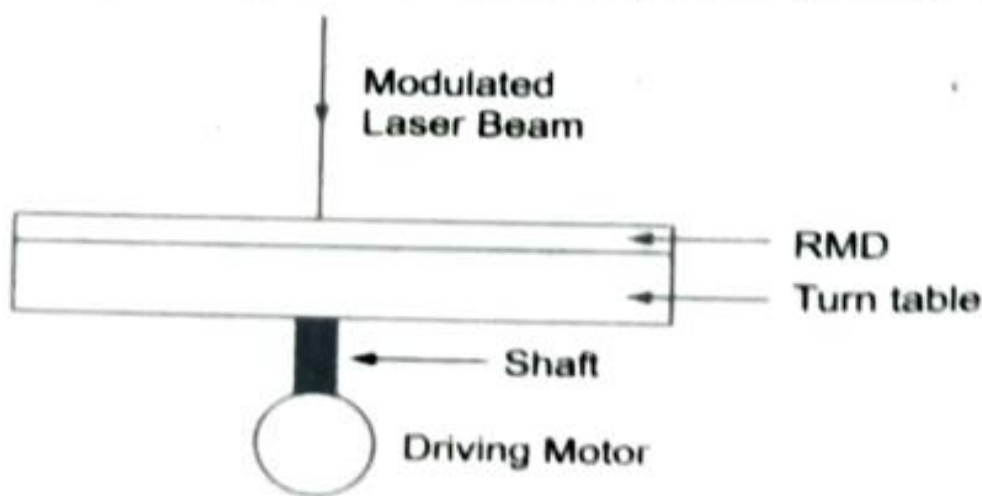

Fig. 10.3: *Optical Recording on CD*
- This disc is fixed on to a turn table which is rotated by a constant speed motor as shown in Fig.10.3.